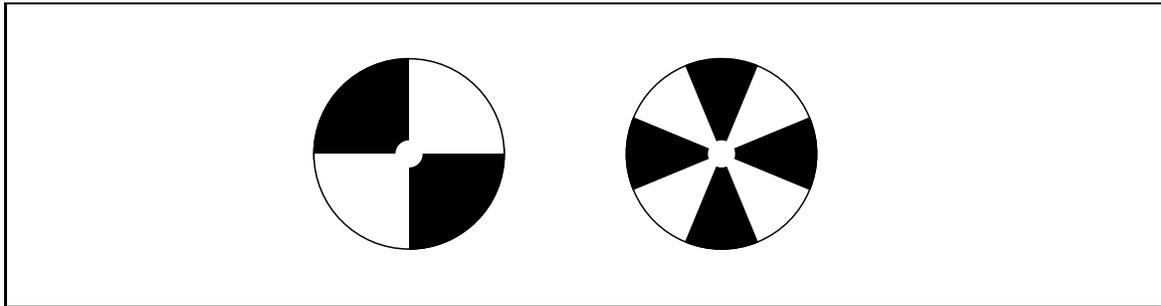

Figure 5.8: Two Optical Shaft Encoder Wheels
**Optical Shaft Encoder** By measuring light and dark segments of a wheel mounted on a rotating shaft, the angular displacement and velocity of the shaft can be measured. Either LEGO encoder wheels designed for this purpose or handmade substitutes, as shown in Figure 5.8 can be used.